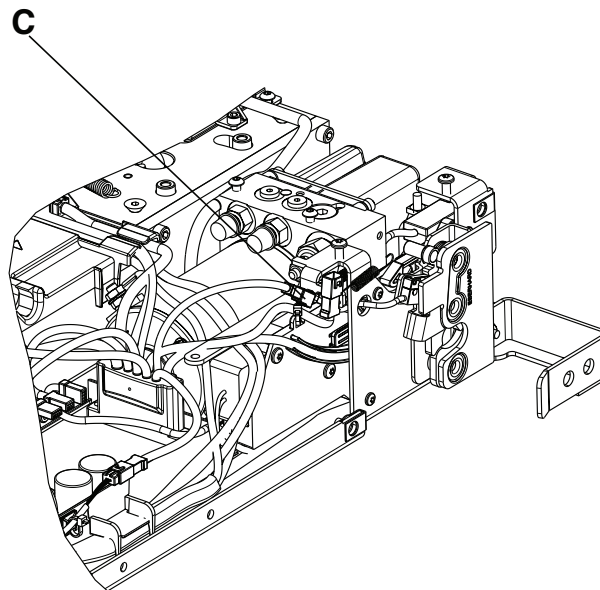

Figure 13 – Main cable assembly
3. Unplug the cable (C) from the trolley actuator to the main cable assembly (Figure 13).